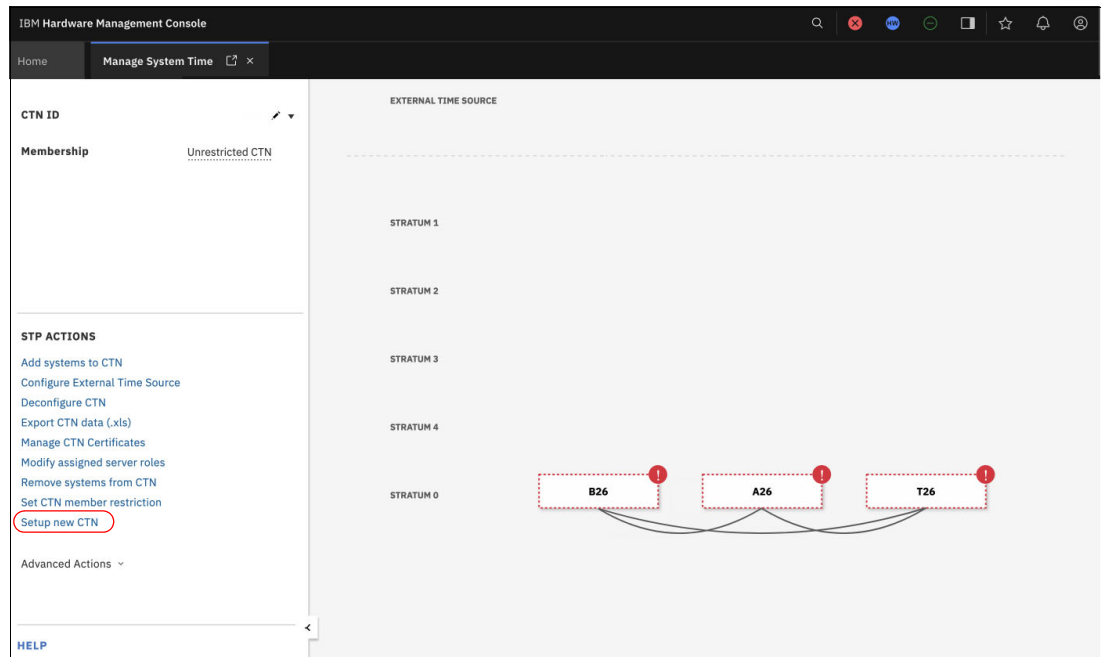

Figure 3-2 Manage System Time task - servers with no CTN membership
1. To initiate the configuration, access the **Manage System Time** task on your HMC, as shown in Figure 3-2 on page 43.